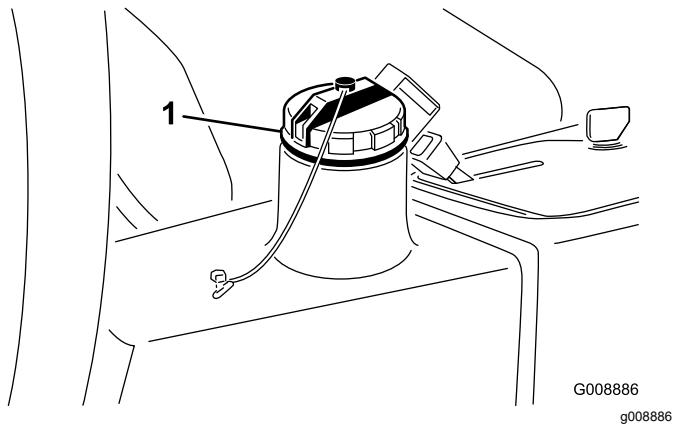

Figure 32
- Mobil EAL Envirosyn H 46 (US)
2. Clean the area around the filler neck and cap of the hydraulic tank (Figure 32).